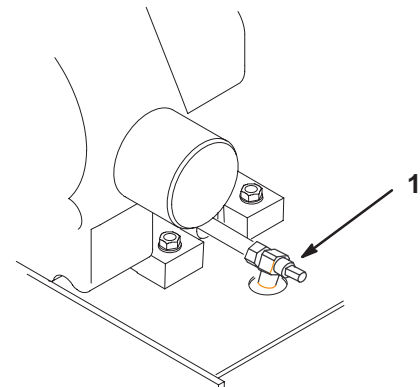

Figure 36
3. Place a pan below the oil drain. Use either a flat screw driver, 3/8 in. or 10 mm wrench to open valve (Fig. 36).
4. Rotate valve end clockwise to close valve. Rotate valve end counterclockwise to open valve (Fig. 36).